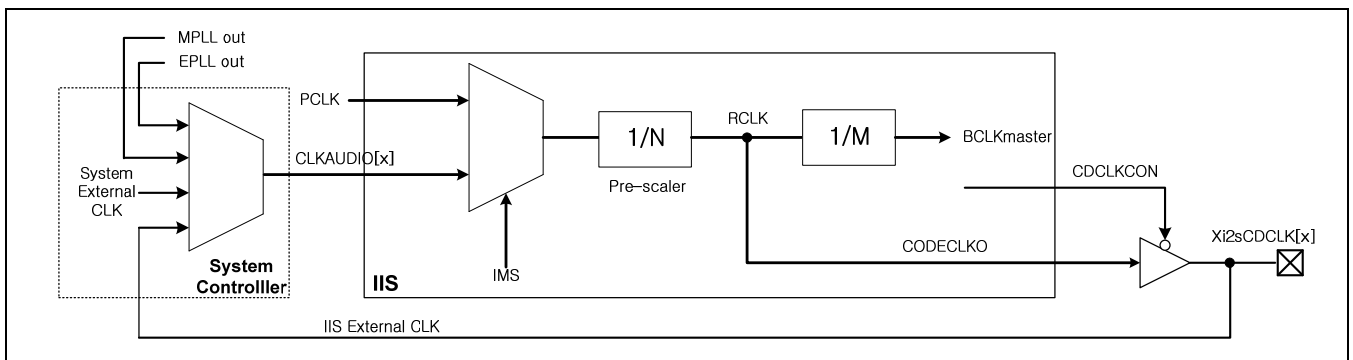

Figure 36-2. IIS Clock Control Block Diagram
Figure 36-2 shows the route of the I2SCDCLK with internal master or external master mode setting in IIS clock control block and system controller. Note that RCLK indicates root clock and this clock can be supplied to external IIS codec chip at internal master mode.
2. You must select a clock source. S3C6410 has five clock sources. Those are MPLL, EPLL, PCLK, system external clock and IIS external clock. For more information please refer to Figure 36-2.